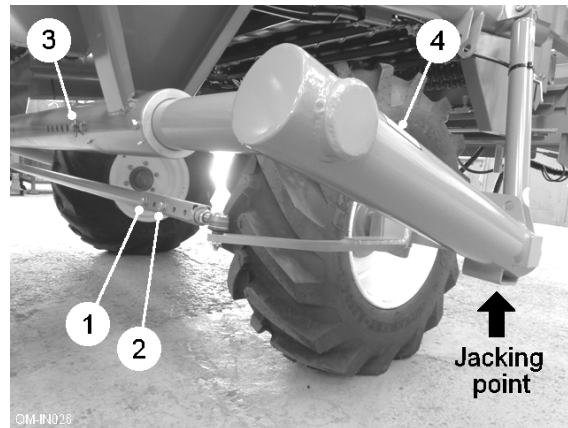

Fig. 19
2. Jack up the machine using the jacking point situated under the axle (see fig. 19).
4. Remove the track rod bolts (item 1 & 2, fig. 19).
5. Remove the axle beam pin (item 3, fig. 19).
6. Slide the axle (item 4, fig. 19) to the new position.
7. Replace the axle beam pin (item 3, fig. 19).
10. Finally, replace and tighten the track rod bolts (item 1 & 2, fig. 19).